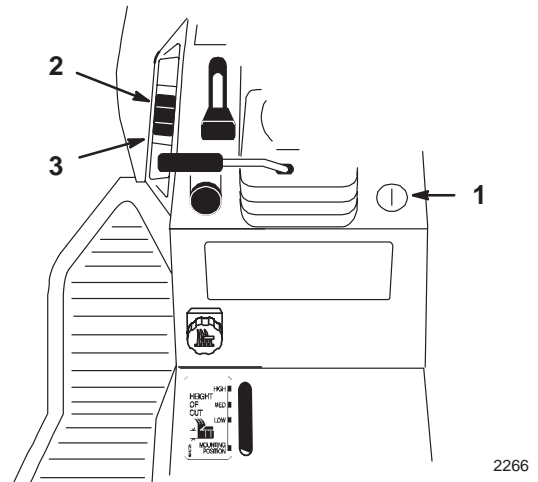

Figure 17
The attachment power lift (optional on some models) (Fig. 17) is used to raise and lower attachments.
1. Turn key to the “ON” or “RUN” position (Fig. 17).
2. Push the lift switch in the “UP” direction to raise the attachment lift (Fig. 17). This will lift and hold the attachment in the up, or raised position.
2. Push the lift switch in the “DOWN” direction to lower the attachment lift (Fig. 17). This will lower the attachment lift.